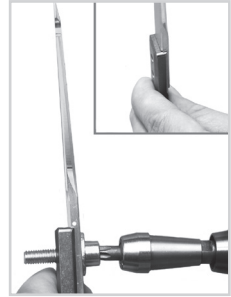

fig. 5
- 3 Remove washer and screw again (fig. 5).